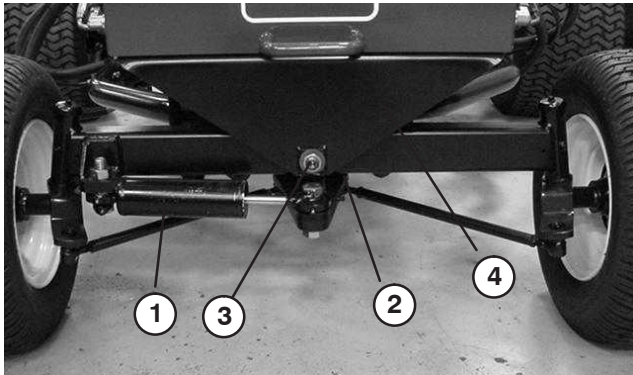

Figure 1
3. Remove jam nut and washer from pivot pin securing axle to axle support (Fig. 1).